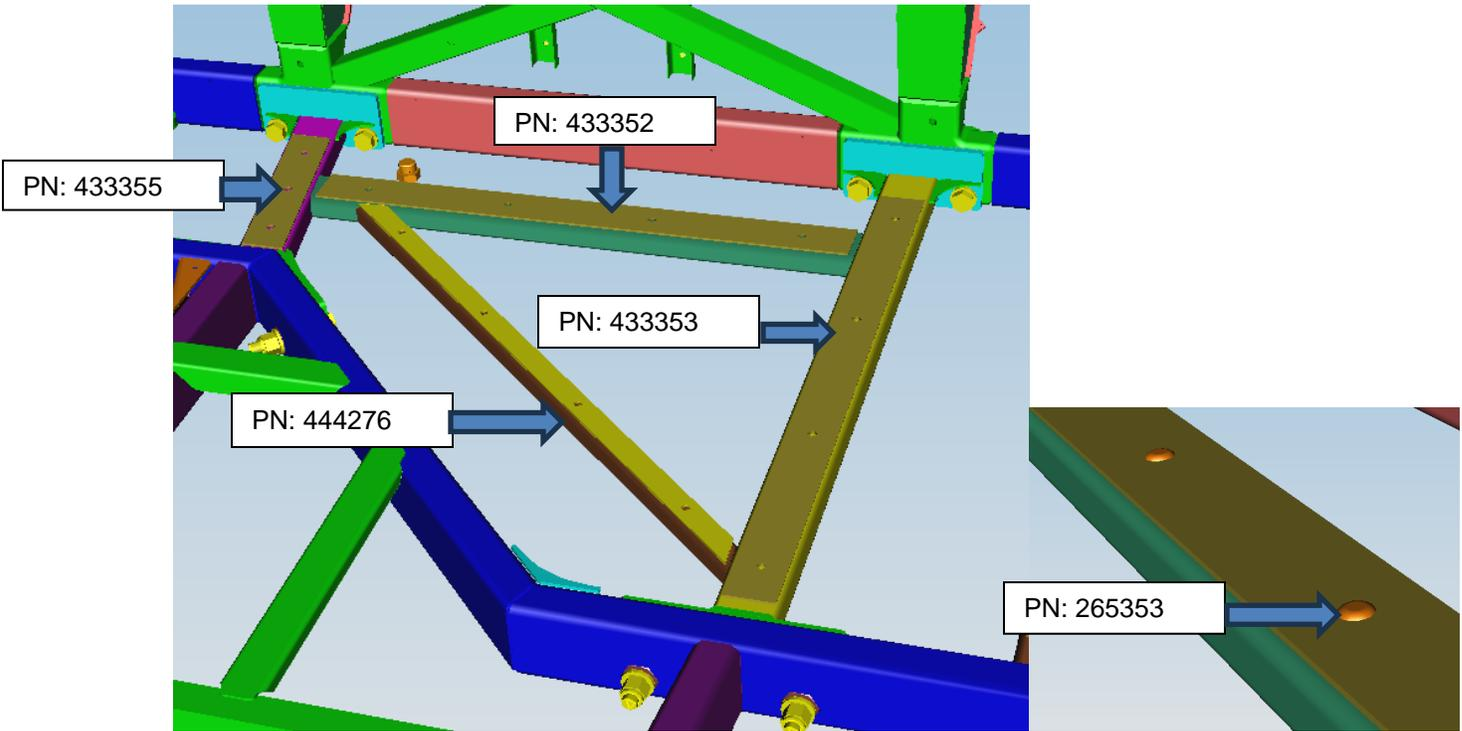

FIGURE 5: SHOWN NEOPRENE STRIPS AND FASTENER TO ATTACH TO TOP OF K-MEMBER
9. If the neoprene strips are damaged or not useable, new strips will need to be installed on top of the K-member. Install by applying the neoprene strip with PSA backing facing down to adhere and line up with the holes on the K-member. Align so that the plastic pine-tree clips (**PN: 265353**) can be pushed through the holes in the rubber and the structure. Repeat for the installation of other strips. These are the neoprene strips (**PN: 433355, 433252, 433353 & 444276**). Refer to **Figure 5**.